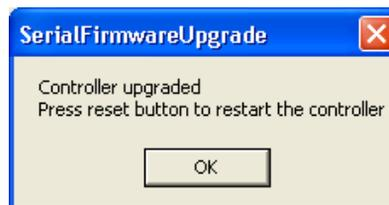

Figure 57. The Serial Firmware Upgrade window
- Select Firmware version¹ from the drop-down menu and click **Upgrade**. File transmission starts to the PLC. A confirmation window opens when the PLC is upgraded, see Figure 57.